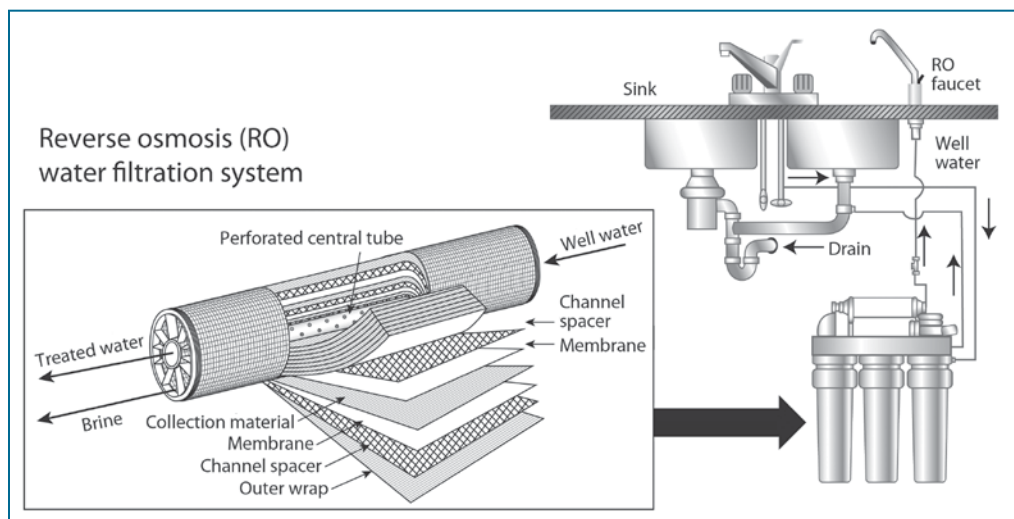

FIGURE 55. A home reverse-osmosis system.
Reverse osmosis (RO) is becoming a common home treatment method for reducing arsenic and total dissolved solids in drinking water (Fig. 55). Best known for its use in water desalination projects, this method can also reduce chemical contaminants associated with unwanted color and taste. It may reduce up to 80 percent of pollutants such as arsenic and uranium, and many types of organic chemicals.